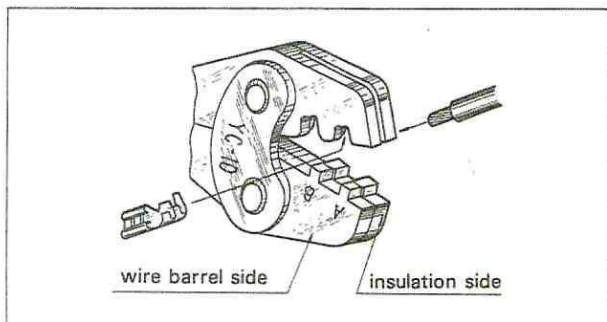

Fig. 1
- (1) Squeeze handles until the ratchet releases and handles open.
- (2) Position a terminal in A or B section as shown in Fig. 1.